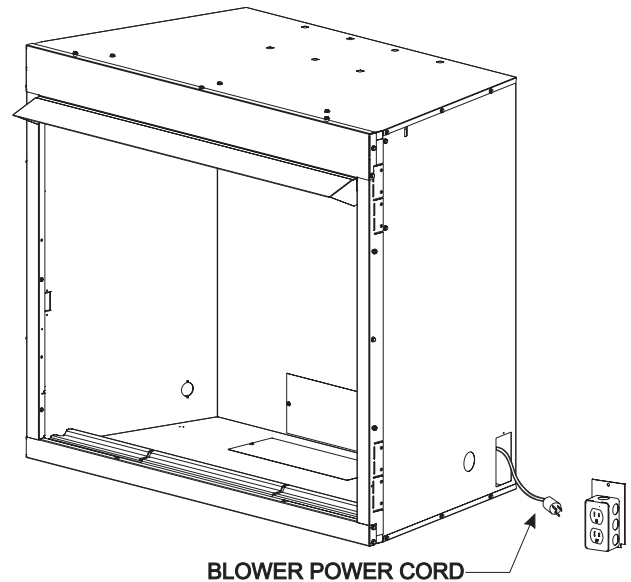

Figure 24
10. To complete the installation, plug the power cord into the junction box receptacle at the right rear corner of the firebox outer wrap. **See Figure 24.**